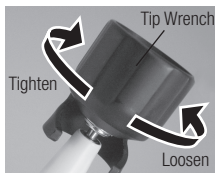

Fig.3
2) Tip will insert from the bottom hole of Tip Wrench. Align the four corner of the Tip base area into the four corner of Tip Wrench. And turn it clockwise until it clicks. (Fig.3)